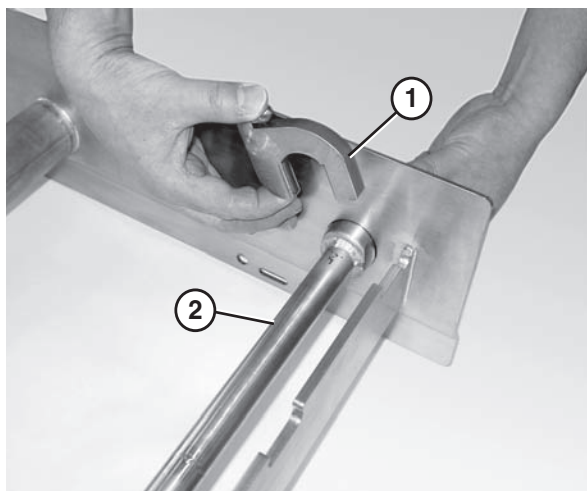

Figure 12
2. Attach the key stops (**Figure 12, item 1**) to the tip up shaft (**Figure 12, item 2**). The rounded end of the key stop should face the tail.